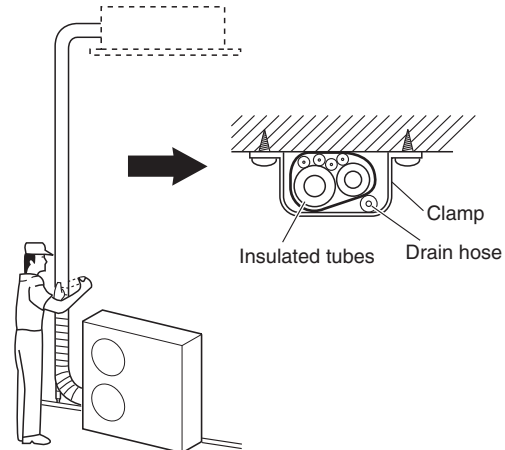

Fig.5-9
- (1) At this time, the refrigerant tubes (and electrical wiring if local codes permit) should be taped together with armoring tape in 1 bundle. To prevent condensation from overflowing the drain pan, keep the drain hose separate from the refrigerant tubing.
- (2) Wrap the armoring tape from the bottom of the outdoor unit to the top of the tubing where it enters the wall. As you wrap the tubing, overlap half of each previous tape turn.
- (3) Clamp the tubing bundle to the wall, using 1 clamp approx. each meter. (Fig. 5-9)